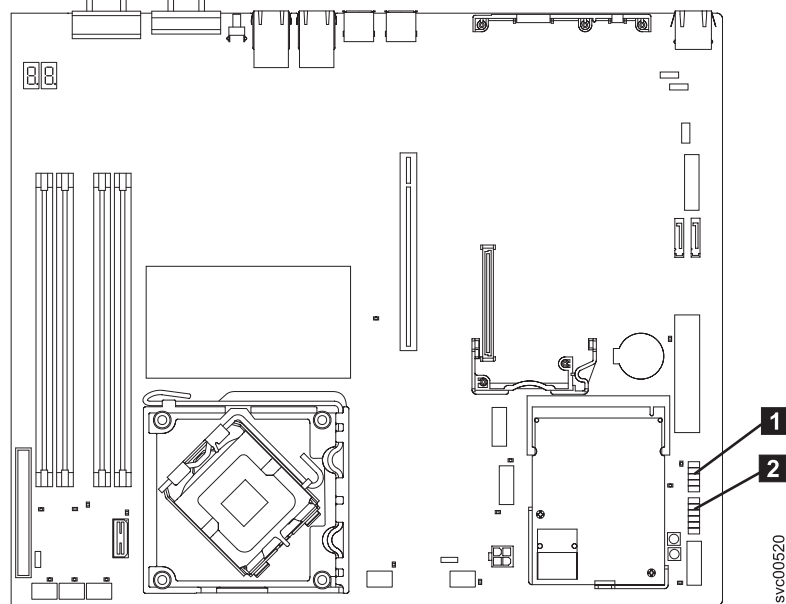

Figure 228. Connectors for the operator-information panel on the SAN Volume Controller 2145-8A4 system board
7. The operator-information panel cable consists of two thick cables and a number of thinner cables that are bundled together and routed through the chassis. It provides connectivity for the operator-information panel and the front USB ports. Trace this cable assembly through to the right side of the system board (next to the power supply) and disconnect the Front USB connector **1** and the operator-information panel connector **2** from the system board shown in Figure 228 on page 241.